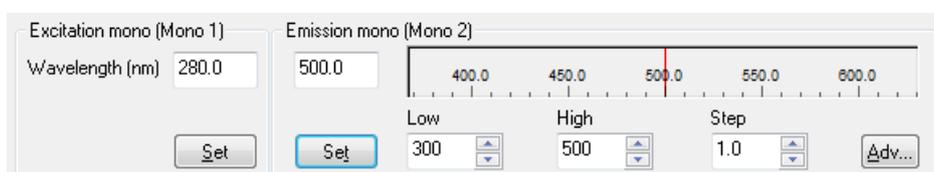

Figure 2.56: the Monochromator panels for steady state fluorescence emission
4) On the **Excitation mono (Mono 1)** panel (Figure 2.56) enter the selected excitation wavelength and bandwidth and click **Set**. On the **Emission mono (Mono 2)** panel enter a scan range and step size.